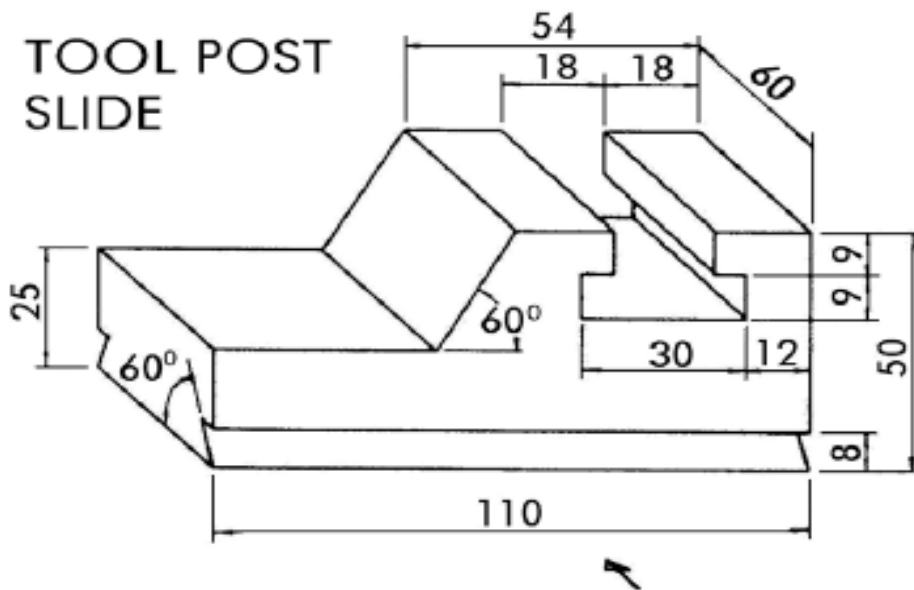

Figure 7: Tool Post.
7. An isometric drawing of a tool post is given below in **Figure 7**. The drawing is not to the scale. Use front view (F.V.) shown below with an arrow for drawing reference.